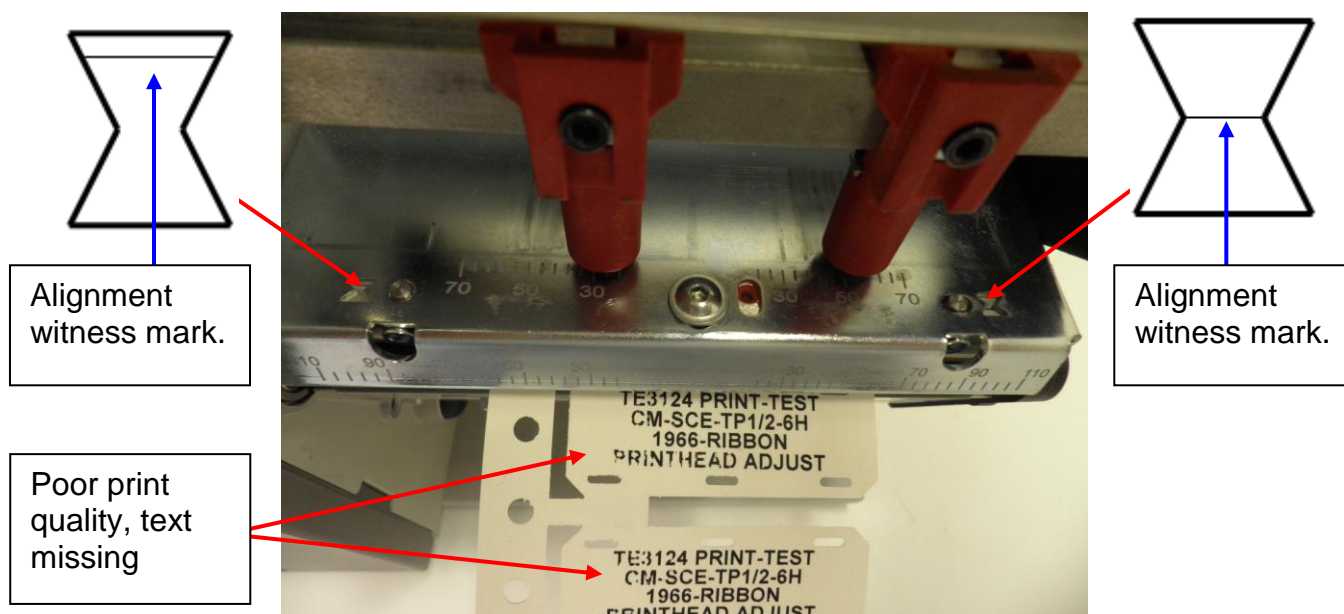

Figure 4 - Example of print that requires printer printhead alignment.
- 3.2. Figure 4 shows a misalignment of the printhead resulting in poor print quality, (imbalance – as shown by the alignment witness marks **NOT** being similarly located)